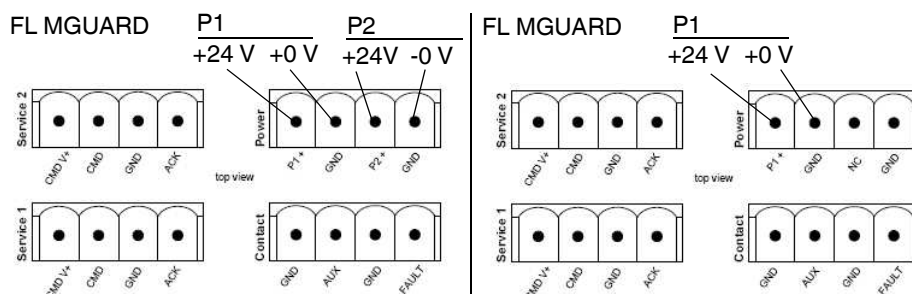

Figure 3-2 Connecting the supply voltage: FL MGUARD RS4000/FL MGUARD RS2000
- Insert the COMBICON connectors in the intended COMBICON sockets on the top of the FL MGUARD (see Figure 3-2).